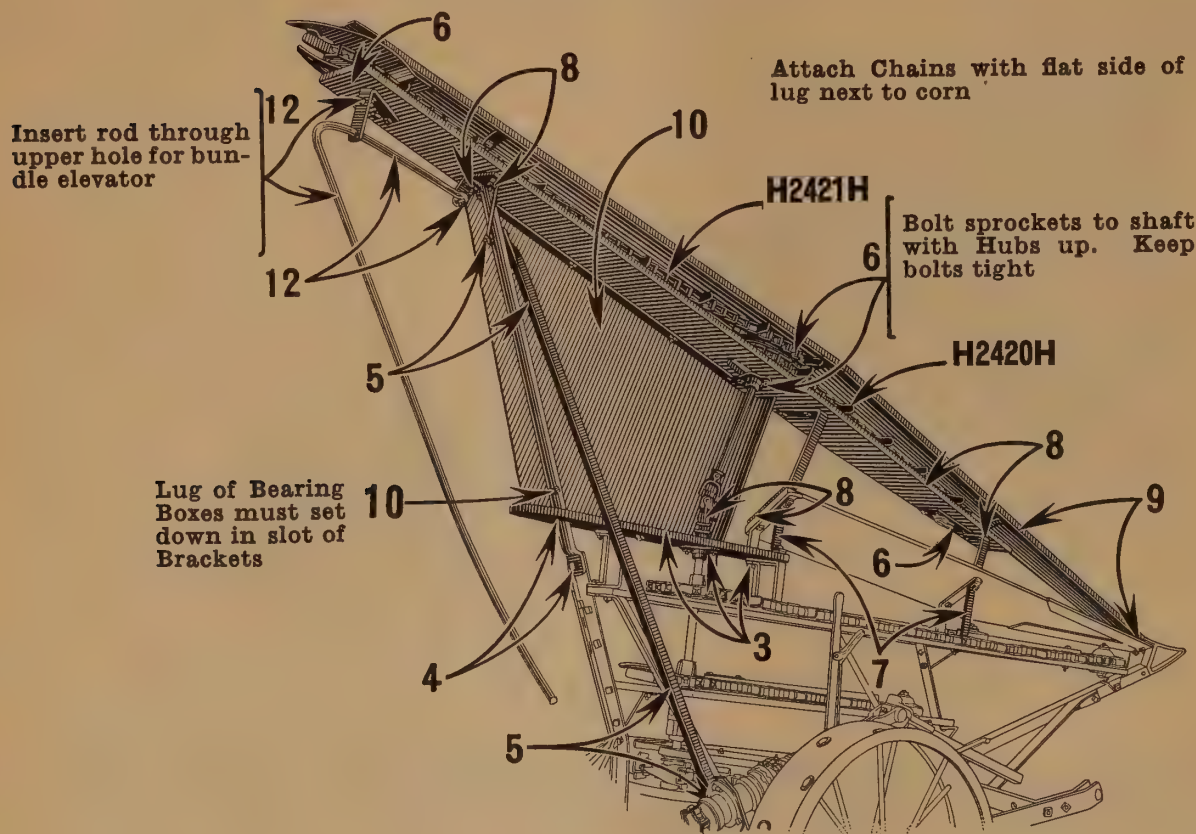

Fig. 56
3. (Fig. 56.) Replace R. H. Gatherer Top Chain Board with new board—Be sure that lug of bearing box sets **down** in groove of bearing box plate.
4. (Fig. 56.) Insert lower end of R. H. Extension Gatherer Support Pipe through large hole at upper end of Gatherer Top Board. Bolt Support Pipe at **upper** bolt in Binder Support Angle and to Breast Plate, with Bolt found in pipe.
5. (Fig. 56.) Bolt Angle Brace to L. H. bolt in Power Shaft Rear Support Plate and to Extension Gatherer Support Pipe—Angle brace goes **between** Power Shaft Support Plate and angle brace for gatherer chain board.
6. (Fig. 56.) Assemble Bearing Box, Drive Sprockets (**Hubs up**) and Shafts to R. H. Extension Gatherer **at same time** attaching H2420H (61 links) Gatherer Chain, Lower, and H2421H (82 links) Gatherer Chain, Upper. Attach **lower** chain over **lower drive sprocket** and **upper** chain over **upper drive sprocket**. Run chains with **flat side** of lug **next** to corn. Adjust tension of chains—See page 41.
7. (Fig. 56.) Bolt Bracket Supporting Braces (2) to underside of R. H. Gatherer Top Board, Lower, at middle and upper end with longer bolts found in Braces. These strengthen the present brackets and will be found wired to supporting brackets for Extension Gatherer.
8. (Fig. 56.) Set R. H. Extension Gatherer in place with Universal Joint over Gatherer Drive Shaft—Bolt Supporting Brackets to Gatherer Top Board, Lower—upper end bolts to Supporting Pipe and to round brace. Bolt Universal Joint to Gatherer Drive Shaft.
9. (Fig. 56.) Bolt R. H. Extension Gatherer Top Shield, Lower, between Gatherer Point and Board—upper end bolts to top of Gatherer Shield Middle, and to Supporting Bracket.
10. (Fig. 56.) Bolt Throat Side (Sheet Metal) to underside of R. H. Extension Gatherer Chain Board and Gatherer Support Pipe to R. H. Extension.
11. (Fig. 56.) Bolt bundle top discharge arm, furnished, to discharge arm socket.
12. (Fig. 56.) Insert rear end of R. H. Bundle Guide Rod (the one removed from Binder) through Support at upper end of Extension Gatherer, and bolt front end of Rod to Bracket on **underside** of Extension Gatherer Chain Board. Insert rod through **lower** hole in support for **Bundle Carrier** and through **upper** hole for Bundle Elevator.